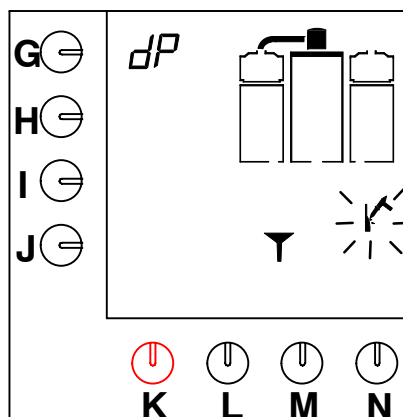

Fig. 19 Coffee-making system asks for descaling solution
- A signal sounds, the hammer symbol flashes and a funnel appears on the display (fig. 19 ).